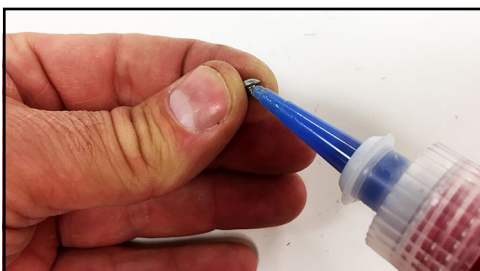

Figure 242 - Apply Loctite®
3. Apply Loctite® 242 or equivalent to the shroud screws, and insert them in the holes in the shroud as shown in Figure 242.